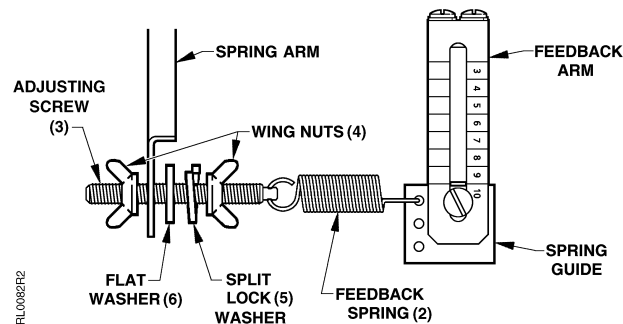

Figure 3. Attaching the Adjusting Screw to the Spring Arm.
- Connect the feedback spring (2) between the spring guide and the adjusting screw (3). See *Figure 3*.
- Thread one wing nut (4), the lock washer (5) and the flat washer (6) onto the adjusting screw. See *Figure 3*.